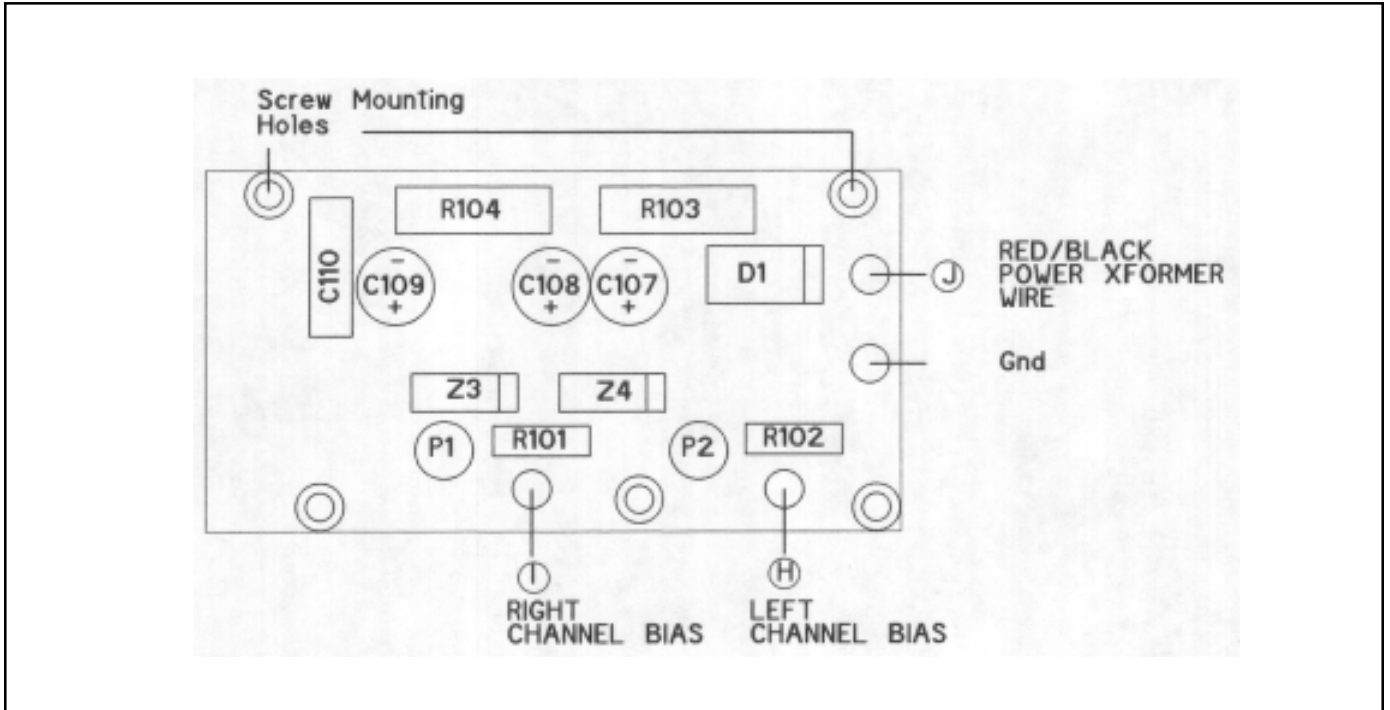

Figure 3. Bias Board Stuffing Guide
- 1) Stuff the bias circuit board per the stuffing guide of figure 3. Double-check to insure the electrolytic capacitors and zener diodes are installed with the correct polarity. Solder approximately 12 inches of red 18 ga. hookup wire (supplied with kit) to the left channel bias output (H) and approximately 6 inches of red wire to the right channel output (I). Solder about 10 inches of black 18 ga. hookup wire to the ground pad (Gnd) of the bias board.
- 3) Solder the red/black colored transformer bias lead (J) to the bias circuit board.
- 5) Solder left (H) and right (I) bias output leads to the bias resistor network at the output tubes. Refers to figure 3 and 4.